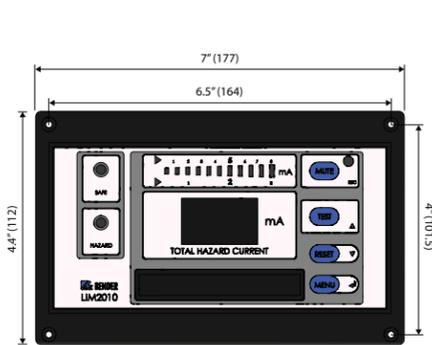

Figure 1 - LIM2010 dimensions, front view
The front plate provides four holes with a diameter of 1/8" (3.2 mm) for screw mounting. Use the four (4) provided screws for mounting. Use minimum 2.6 lb-in (0.3 N-m), maximum 3.5 lb-in (0.4 N-m) torque. Before mounting, plug the connector plate into the LIM. Refer to Figures 1 and 2 for dimensions, listed in inches (mm).